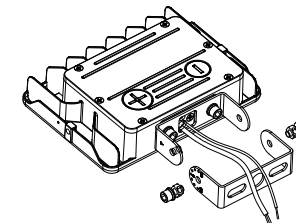

figure 2.2
- Step 3: Fix the lamp and bracket together with screws (Do not scratch the wires) (Figure 2.2)